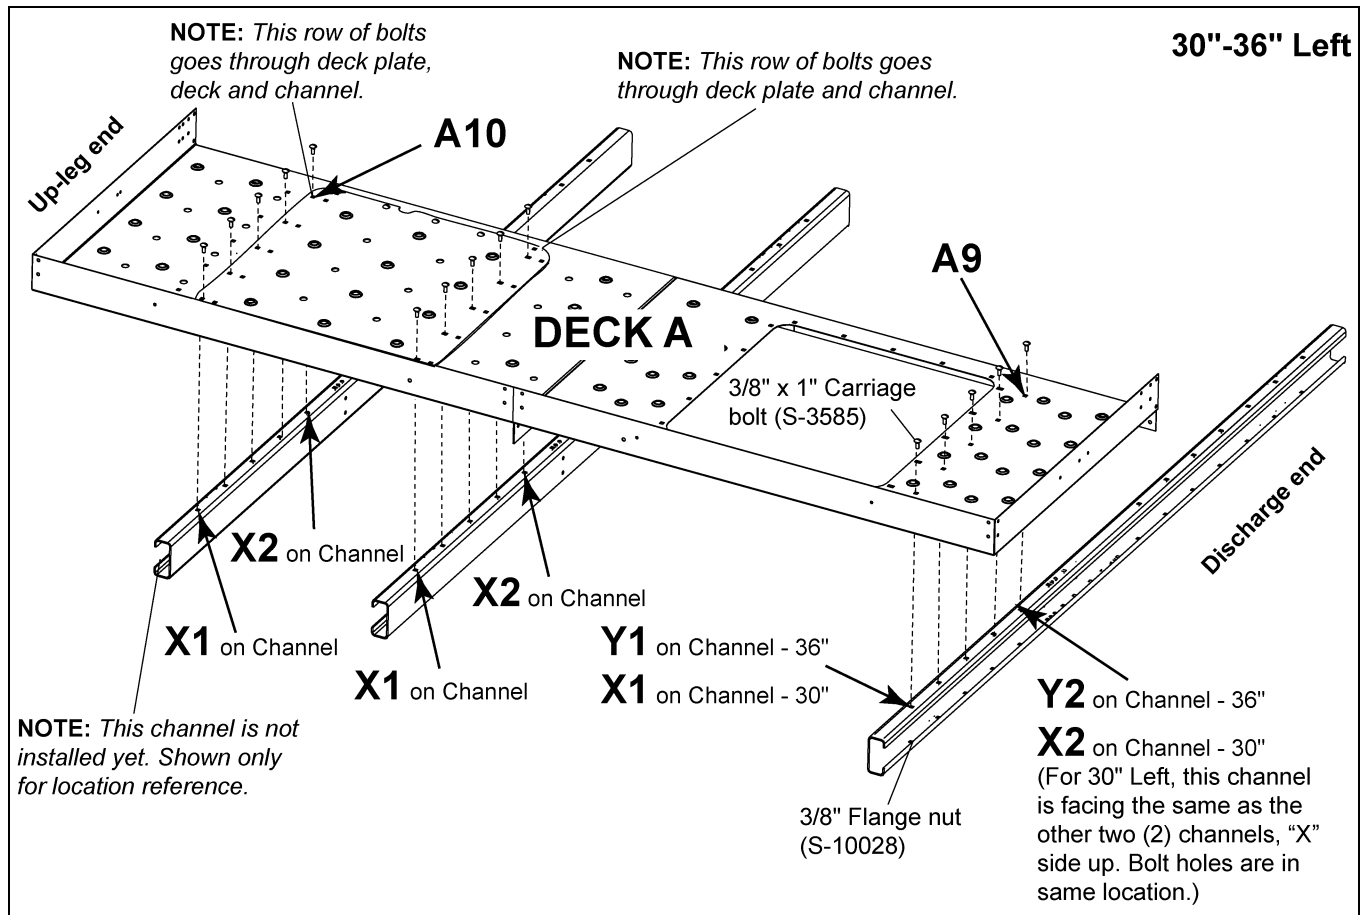

Figure 9H
3. On the **Discharge End**, use a punch as needed to line up. (See Figure 9H.)
- b. At the **hatch side** - Channel hole **X2** on the cross deck support channel to Deck A hole **A10** and deck plate cover. (See Figure 9H on Page 68.)